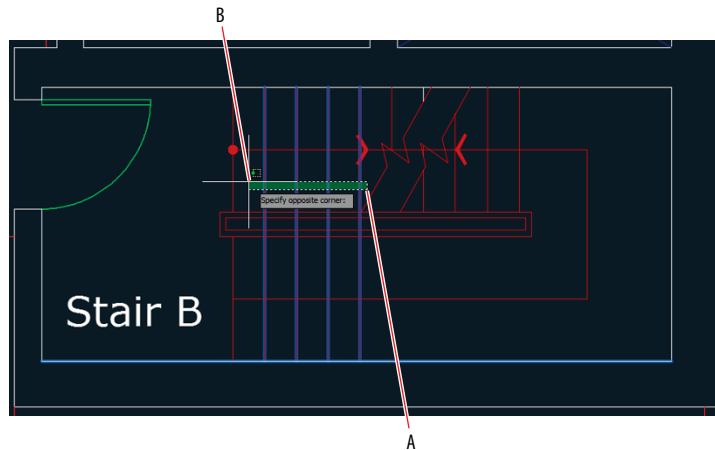

FIGURE 4.22 Extending lines with a crossing window and by selecting
3. Create a crossing window by clicking points A and B, as shown in Figure 4.22. Four tread lines are extended. Click each remaining tread line, one at a time, to extend all the stair treads to the core wall. Press Enter to end the command.